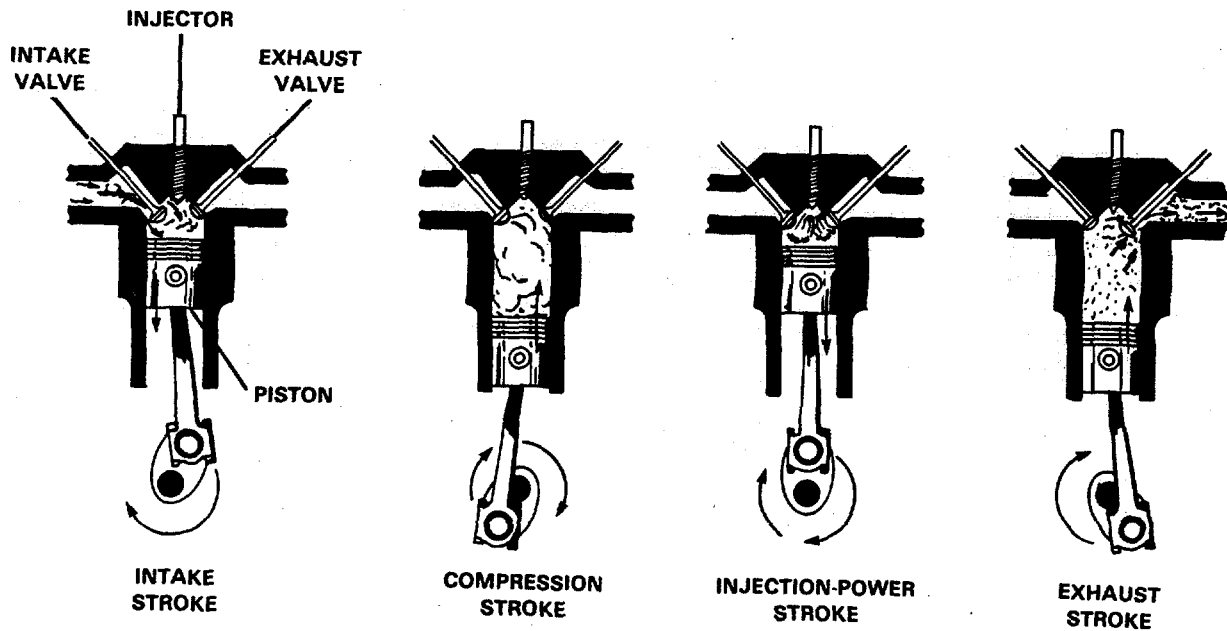

FIGURE 1-6. Diesel Engine Cycles.
a. Diesel Engine Cycles. It is easier to understand the function of engine parts if you know what happens in the combustion chamber during each of the four piston strokes of the cycle. The four strokes and order in which they occur are: intake stroke, compression stroke, power stroke, and exhaust stroke (Figure 1-6). In order for the four strokes to function properly, valves and injectors must act in direct relation to each of the four strokes of the piston. The intake valves, exhaust valves, and injectors are camshaft actuated, linked by tappets or cam followers, push rods, rocker levers and valve crossheads. The camshaft is driven by the crankshaft gear, and that means rotation of the crankshaft directs the action of the camshaft, which controls the opening and closing sequence of the valves and the injection timing (fuel delivery).